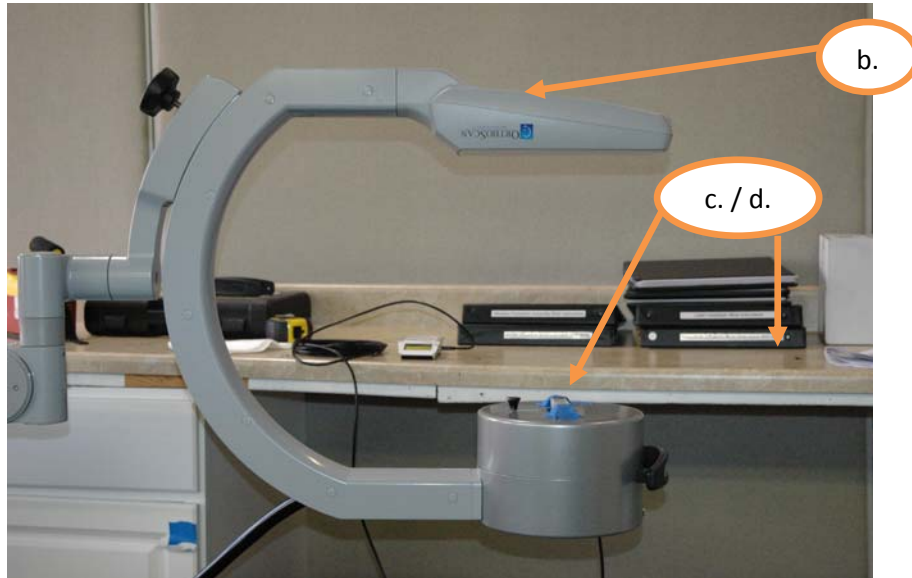

Figure 3.2
- b. Affix the UNFORS test wand to centered location at the source window (tube enclosure) to intercept the center of the beam of the Entrance AKR. Refer to Figure 3.2.